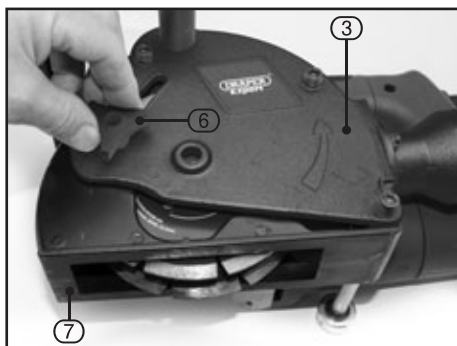

FIG.6
Place a replacement blade onto the inner flange, checking the direction of rotation on the blade matches the direction shown on the guard hood (3) Fig.6.
### 8.6 CUTTING DEPTH ADJUSTMENT - FIG. 6